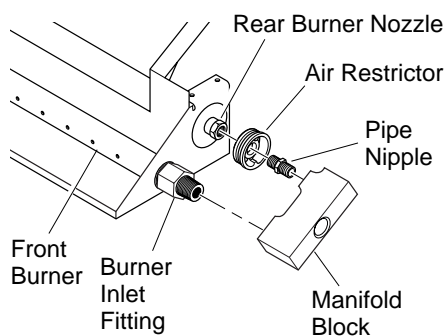

Figure 6 - Kit Assembly
1. Remove burner inlet fitting from front burner (installed in burner pan, see Figure 6).
3. Using thread sealant (resistant to the action of propane/LP gas) on larger end of fitting, screw the burner inlet fitting through the hole and into the front burner (see Figure 6). Tighten using a 7/8" wrench.
4. Apply thread sealant compound to the 3/8" male threads of the burner inlet fitting. Thread the manifold block (see Figure 6) onto the burner inlet fitting. Use the bottom hole of the block.